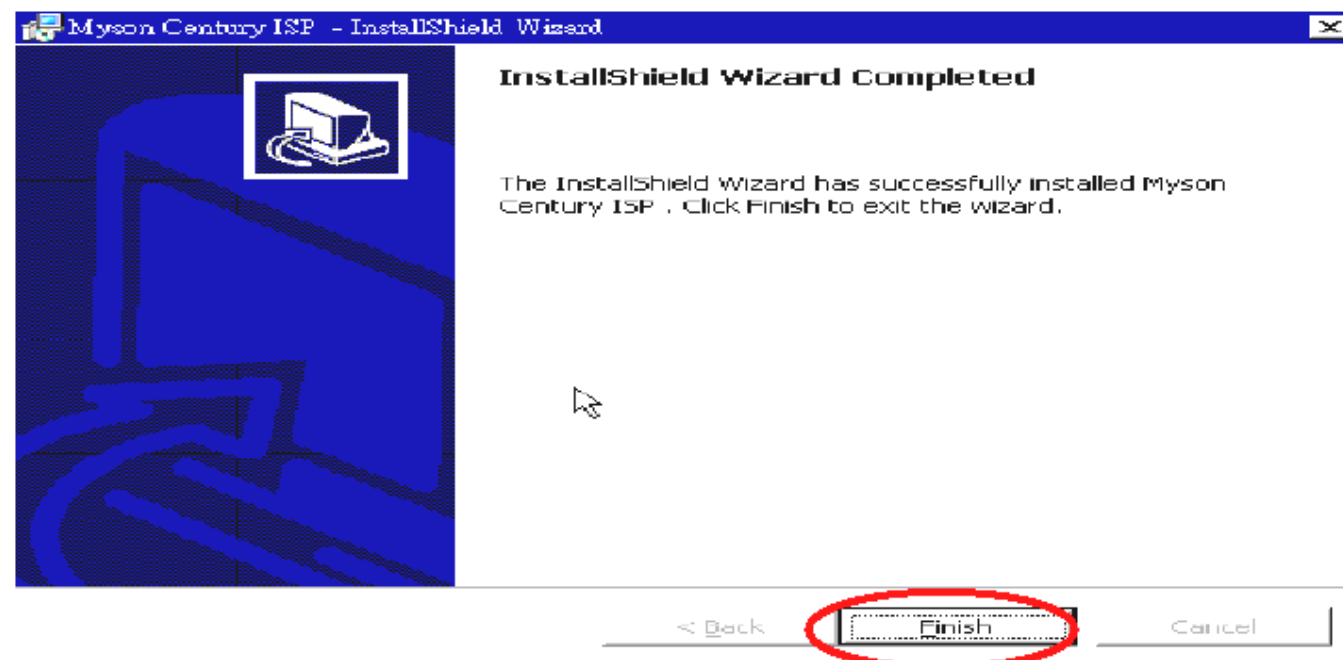

Fig 2.7
2.7 Installation has finished, press “ Finish ” button, see Fig 2.7.